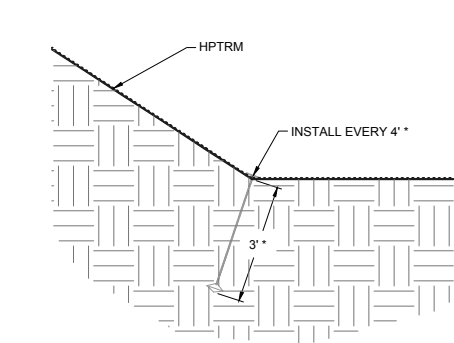
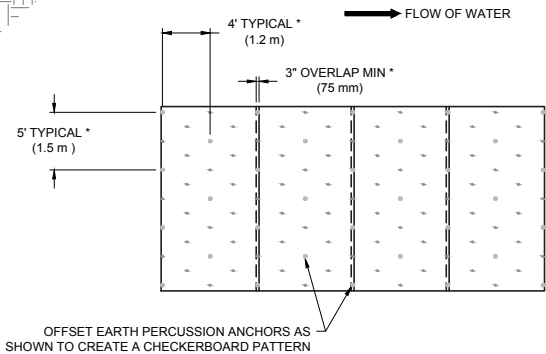

FIGURE 8: BREAK IN SLOPE INTERFACE DETAIL FOR CHANNELS
FIGURE 6: ANCHOR / PIN PATTERN AND LONGITUDINAL EDGE DETAIL
- A. Roll edge overlap: 3 in (75 mm) minimum overlap with upstream mat on top. Secure with one row of pins on 12 in (300 mm) centers and with one row of Gripple Earth Percussion Anchors on the designed anchor pin pattern detail in Figure 6. A typical spacing on the overlapping seams for the Gripple Earth Percussion Anchors is 5 ft (1.5 m).
- Secure mat using pins and Gripple Earth Percussion Anchors. For appropriate frequency and pattern, see the typical Anchor/Pin Pattern Detail (see Figure 6) and the Pin Pattern Detail (see Figure 7). See Toe Interface Detail (Figure 8) for special anchoring patterns for breaks in slope.
- Metal pins should be at least 0.20 in (5 mm) diameter steel with a 1 1/2 in (38 mm) steel washer at the head of the pin (see Figure 6). Metal pins should be driven flush to the soil surface. Pins should be between 12-24 in (300-600 mm) long and have sufficient ground penetration to resist pullout. Longer pins may be required for looser soils. Heavier metal stakes may be required in rocky soils. Depending on soil pH and design life of the pin, galvanized or stainless steel pins may be required. Consult project plans and/or specifications for tie down device details.